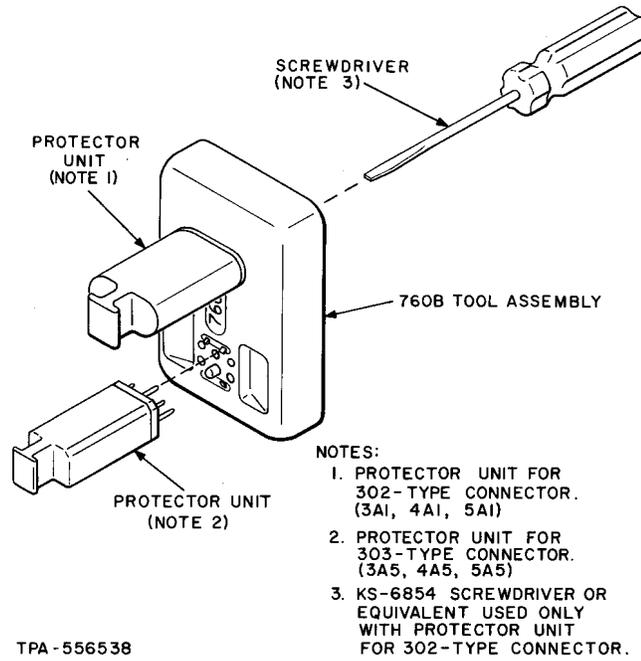

Fig. 5—760B Tool Assembly
3.36 If the protector units for the 302- or 303-type connectors are found to be defective when tested on the KS-20100 L1 or L2 test set, they may be disassembled using the 760B tool assembly (Fig. 5).
3.37 Insert the protector unit into the 760B tool assembly per Fig. 5. Using the KS-6854 screwdriver, remove retaining screw from the base of the protector, and withdraw the protector shell. Heat coils and/or carbon blocks are now exposed for inspection and replacement.
3.38 Insert the protector unit into the 760B tool assembly per Fig. 5. Press down on protector handle to disengage protector shell retaining tabs and withdraw the protector shell. Heat coils and/or carbon blocks are now exposed for inspection and replacement.